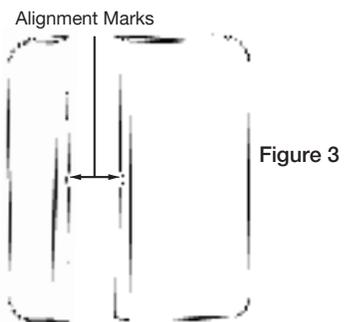

Figure 3
2. When mounting the magnet, line up the arrow on the magnet with the middle line on one side of the sensor (see **Figure 3**). Mount the magnet no more than 0.4 in. (1 cm) away from the sensor. Secure the magnet with included screws or adhesive.